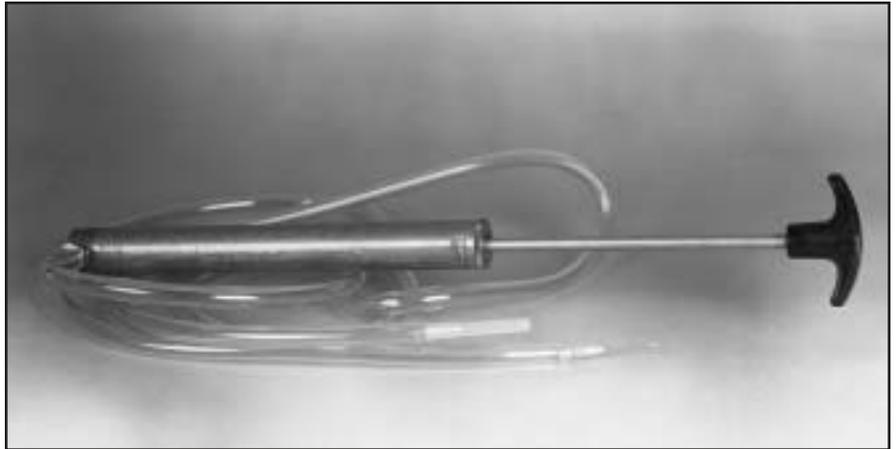

Figure 3: Vacuum Pump
- 4) Identify the vacuum side of your pump. Looking at the bottom of the pump, the hose connected to the port at the bottom side of the molded arrow is the vacuum hose (see figures 3 and 4).